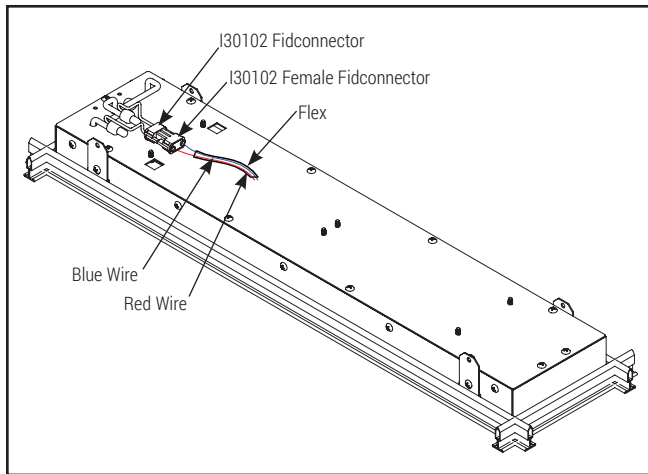

Figure 6.
9. Connect QD with Blue and Red wire passing through Flex cable and connect male and female connectors (Figure 6.)